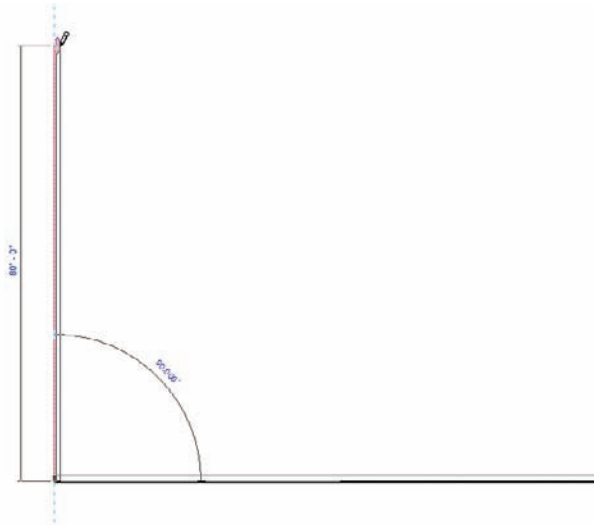

FIGURE 1.20 How Revit Architecture works is evident in this procedure.
4. With the Wall command still running, move your cursor straight up from the endpoint of your 100'-long wall. Look at Figure 1.20.